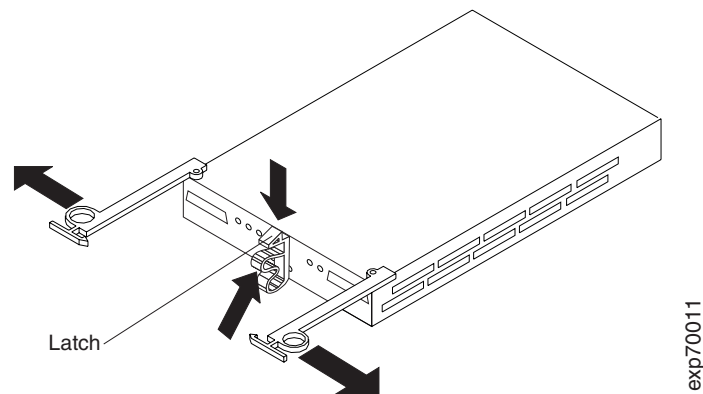

Figure 55. Removing the failed ESM
5. Be sure the Fault indicator LED is lit; then, push down on the ESM latch as shown in Figure 55.